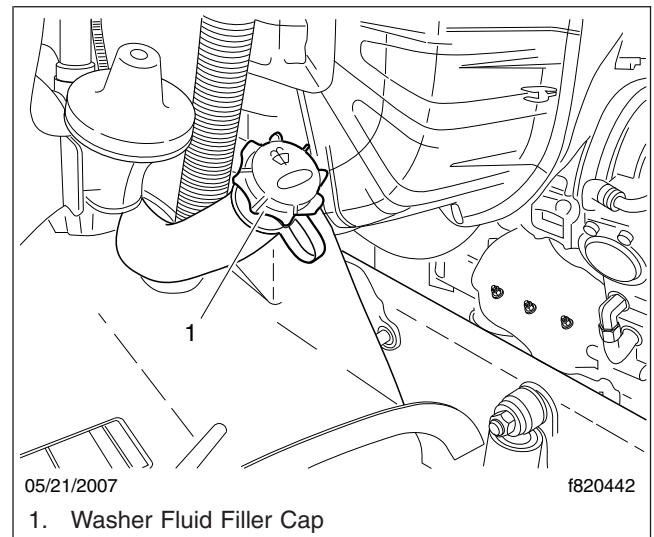

Fig. 21.11, Windshield Washer Reservoir
1. Check the windshield washer reservoir fluid level. The reservoir is usually located near the right-hand frame rail. See Fig. 21.11.